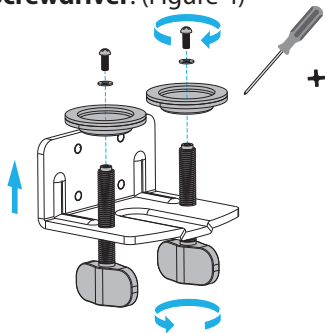

Figure 4
6. Insert the **M4x10mm Screws** (x 2) through the **Small Washers** (x 2), **Desk Clamping Discs** (x 2) and into the **Hand Knobs** (x 2). Tighten the **M4x10mm Screws** (x 2) with a **Phillips Head Screwdriver**. (Figure 4)